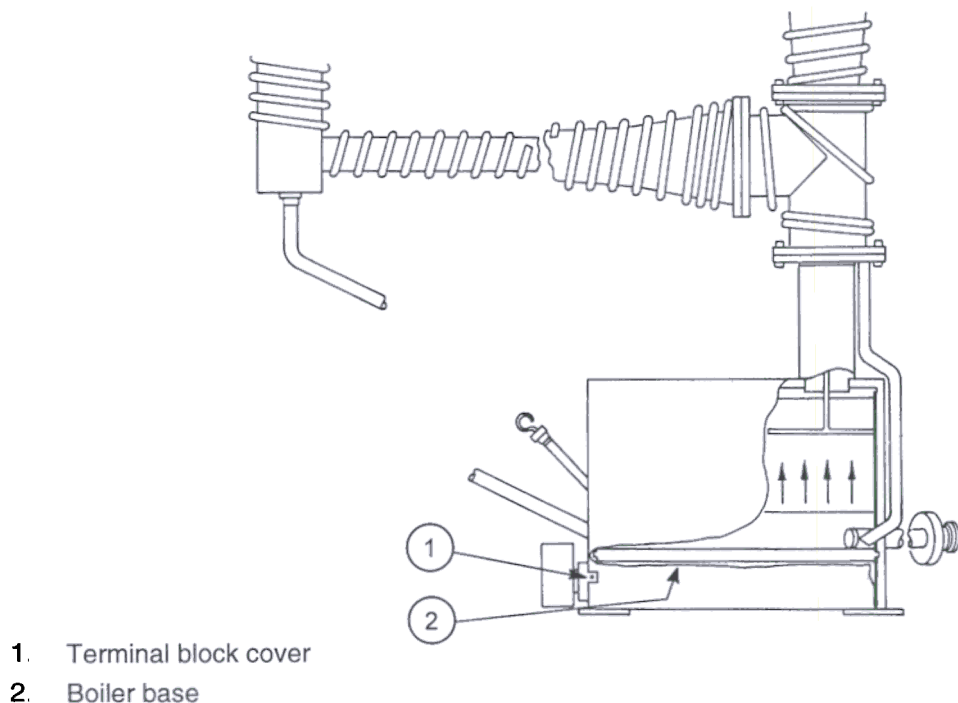

Figure 15 - Locations of the 18B4A radiation shield rear cover and the terminal block cover
Notes: Refer to Figure 15. The terminal block cover (1) is secured to the boiler base (2).